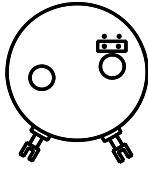

Fig.7: "130°-290° "
The range of the ESM21 is preset to the max. range (fig. 7). The range can be reduced, if you can not reach the end value (20mA) at full travel of valve.
-Jumper at bottom for measuring range between 130° and 290° (fig. 7)